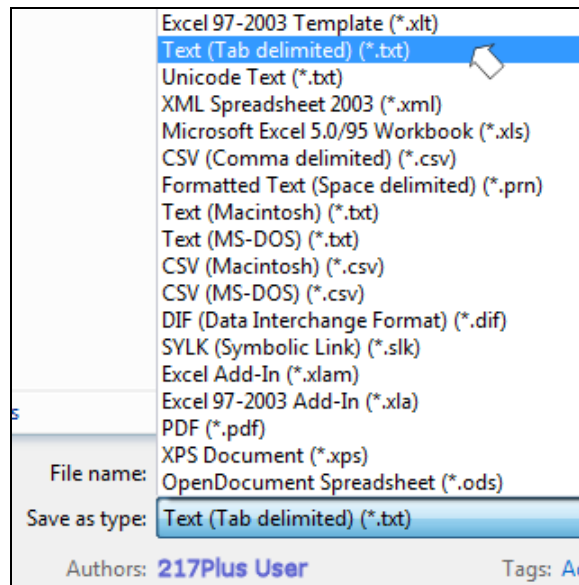

Figure 9. Save the Workbook Data as a Tab-Delimited Text File
18. **Save** the workbook. Select **Save as** and **Other Formats**. In the **Save As Type** box, select “**Text (Tab delimited) (*.txt)**” from the list of formats, enter a file name and save the file (*Figure 9*).